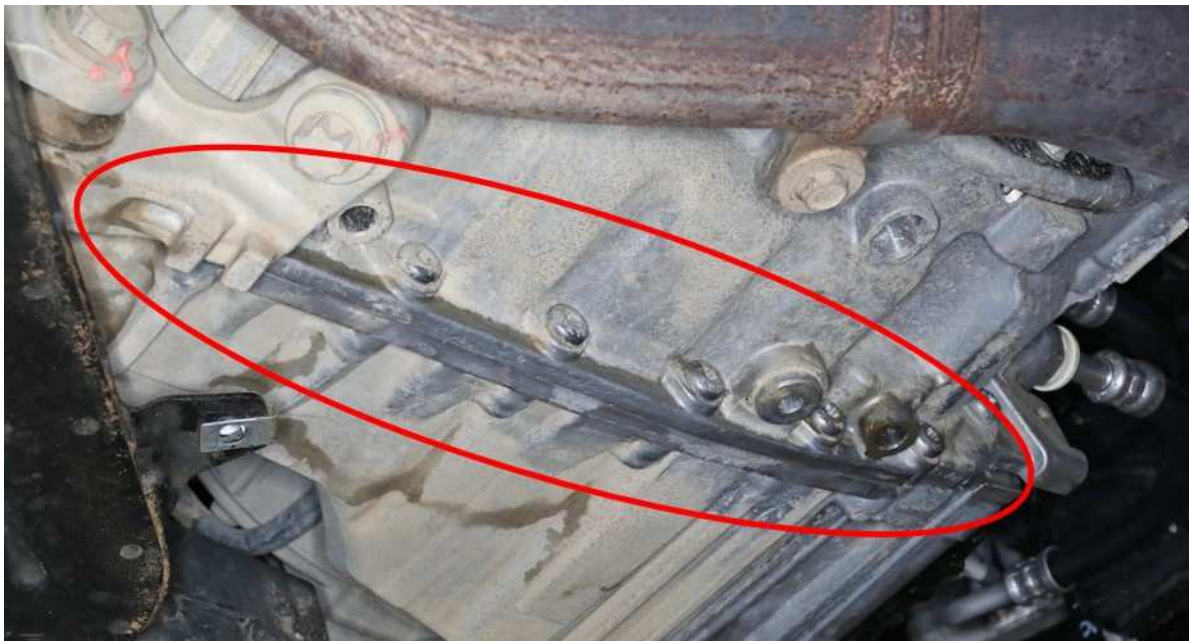

Fig. 2
10. Verify the leak is at the split in the transmission case (Fig. 2) .
11. Is the leak at the split in the transmission case location and not leaking from higher up or any other location(Fig. 2) ?
8. Verify the transmission fluid is not leaking at the repair area (Fig. 2) , if a leak is still detected further diagnosis should be performed.